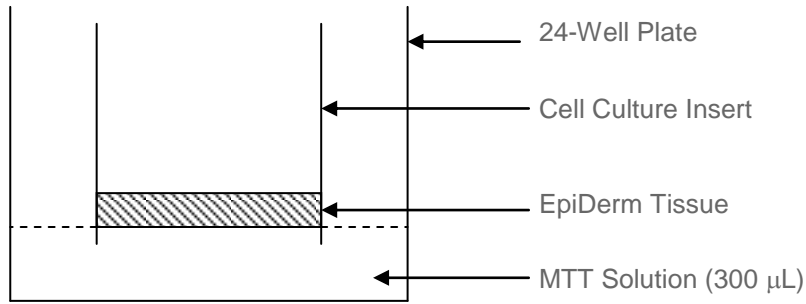

Figure 2: Incubation in MTT solution (37 °C, 95% rH, 3 Hrs)
k) **MTT loading:** Return the EpiDerm samples in the 24-well plate to the incubator for 3 hours. See Figure 2. *Note: Deviations from the 3 hour time for MTT incubation will result in different MTT readings thus the 3 hour MTT incubation time should be strictly adhered to.*